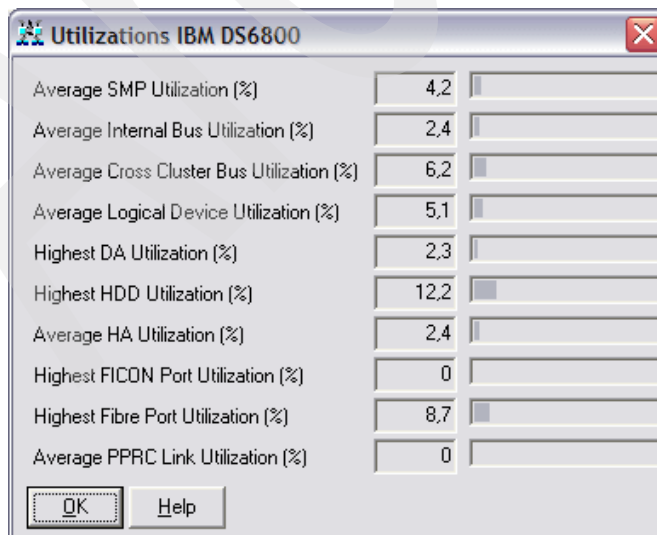

Figure 4-113 Modeled utilizations
- i. On the iSeries Workload tab, click **Utilizations**. The Utilizations IBM DS6800 window (Figure 4-113) opens. Observe the modeled utilizations for the existing workload. In our example, the modeled hard disk drive (HDD) utilization and LUN utilization are far below the limits that are recommended for good performance. There is room for growth in the modeled DS configuration.